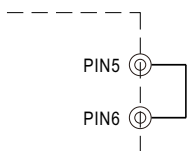

Fig. 4.1 Insert the CN1
- Insert the shorting connector on CN1 that is shown in Fig 4.1, the Overload Protection Type will be "constant current limiting with delay shutdown after 3 seconds, re-power on to recover". This is the factory default.